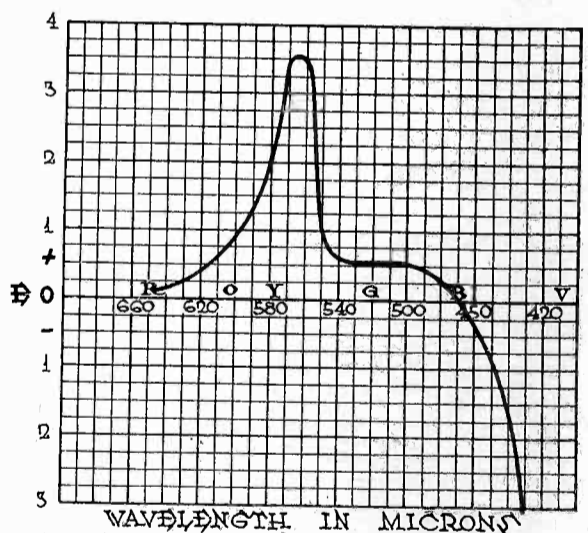

Fig. 2. Wavelength Sensitivity Curve
**Spectral Sensitivity:** A measure of the sensitivity of this type of cell to different spectral colors (Fig. 2) was obtained by means of Wratten light filters. The light source was a tungsten filament lamp with a concentrated filament supplied
by a storage battery. The curve shown is purely qualitative as is any obtained by filters which pass a relatively wide band of frequencies. The cell shows a rather marked selective effect in the yellow. This rapidly decreases in the green and changes sign (positive to negative) in the blue. In the blue-violet the potential has reached an appreciable value of the opposite sign. The various spectral colors, red, orange, yellow, green, blue and violet are denoted by R, O, etc., in Fig. 2.